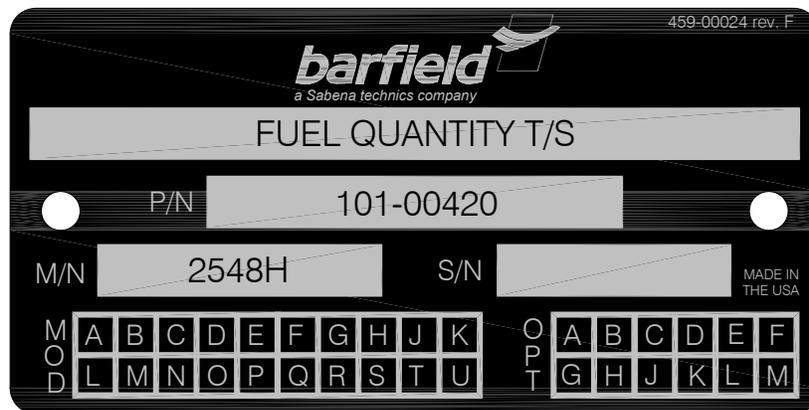

Figure 1 IDENTIFICATION LABEL
- A. An identification label similar to Figure 1 and located on the front bulkhead of the Test Set, provides the following information: